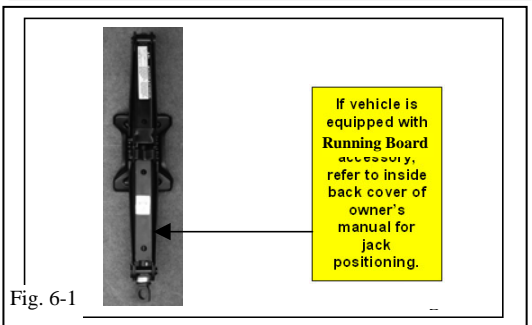

Fig. 6-1
- (c) Place the 1" x 1-1/2" yellow sticker on the jack as shown. (Fig. 6-1)